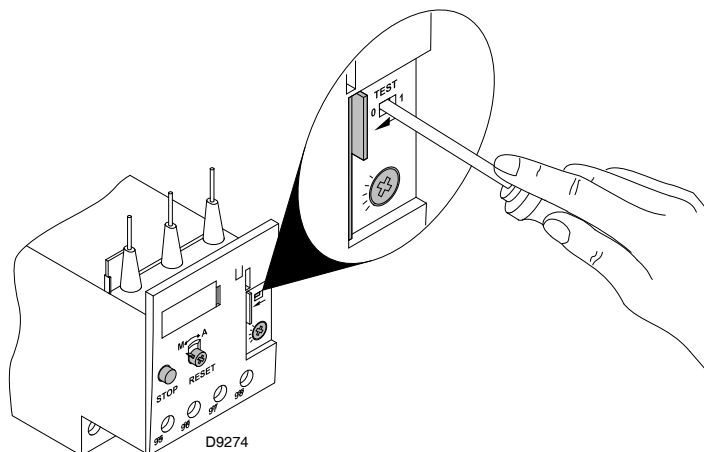

Fig. 36
- To test the thermal relay, insert a screwdriver in the window **"TEST"** (Fig. 36) and move it in the sense of the arrow (towards right).